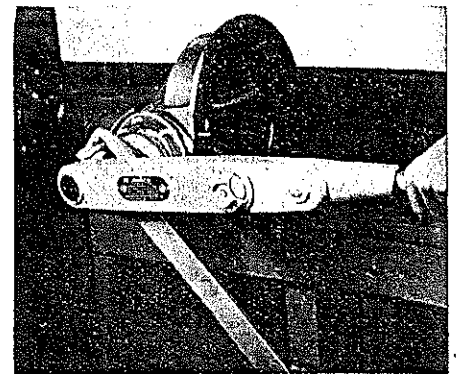

Fig. 171 Removing pinion shaft nut
8. Place pinion and cage over carrier studs. Hold yoke as shown in Fig. 171 and tighten pinion shaft nut to 300-400 foot-pounds torque.